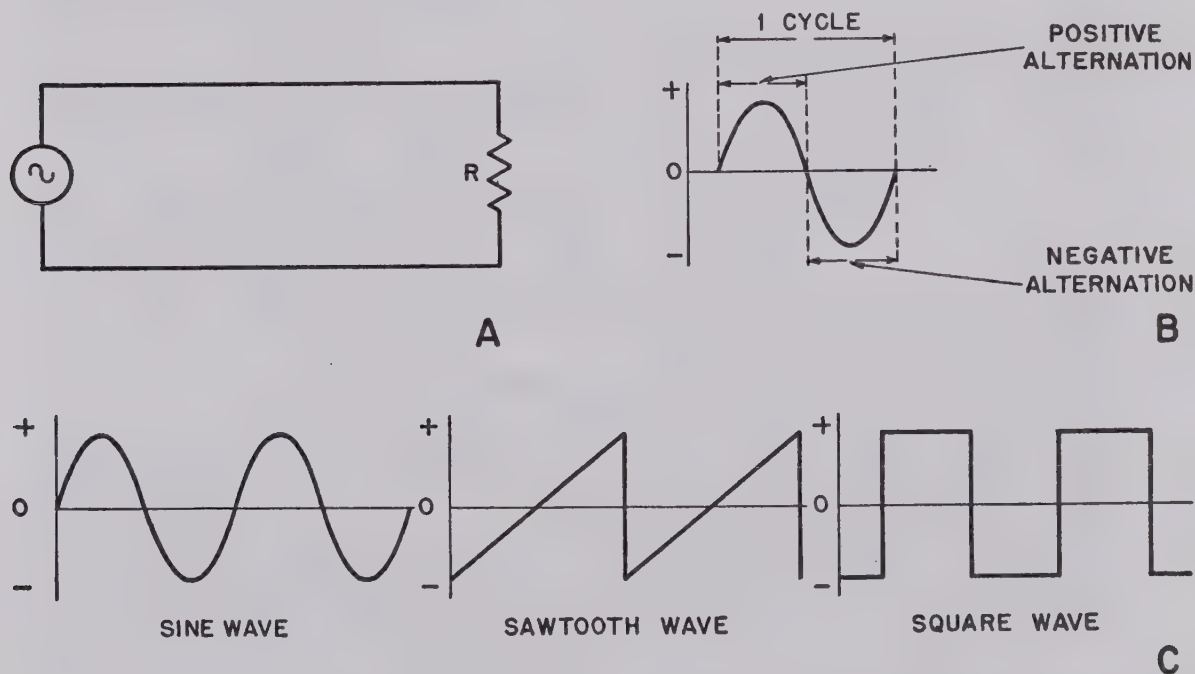

Figure 21. Fundamental a-c ideas.
a. NATURE OF AC. Alternating current flows periodically first in one direction and then in the opposite direction, as shown in figure 21. The time necessary for the current to go from 0 to a maximum positive, to 0, to maximum negative, and return again to 0 is the time for 1 cycle. That portion of the cycle during which the current flow is in one direction only, as in B, is called an alternation. Frequency is the number of cycles occurring per second and an alternating current may be any frequency.